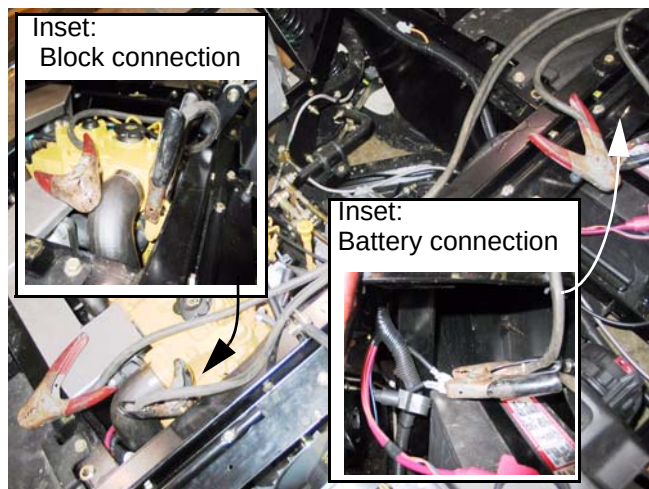

Figure 7.23
- The clever use: If the technician suspects that there is resistance on the ground side of the system, a quick-and-dirty test can be made using jumper cables. See Figure 7.23.